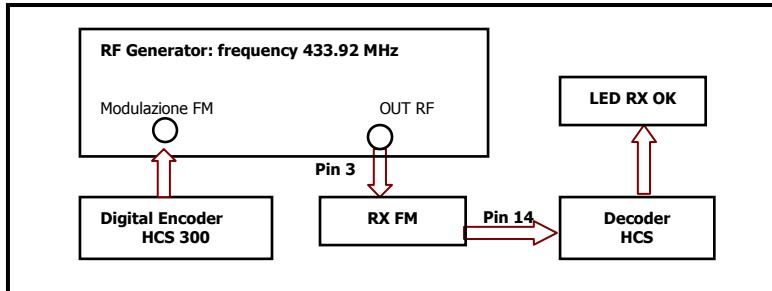

Fig. 1 – Measurement of sensitivity.
- Note1:** Values have been obtained by applying the test system as Fig.1, with a square wave 99% as modulation index.